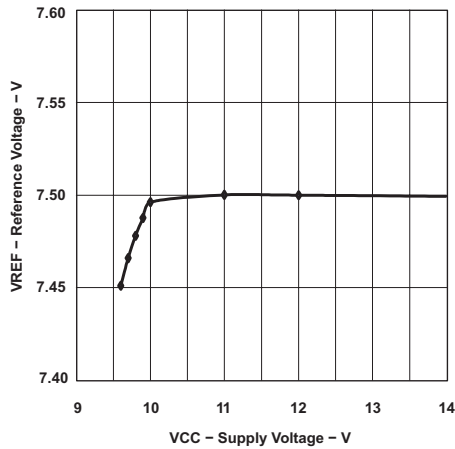

Figure 1. Reference Voltage vs Supply Voltage
(1) Ensured by design, not production tested.
(2) Reference variation for  $V_{\text{CC}} < V$  is shown in Figure 1.